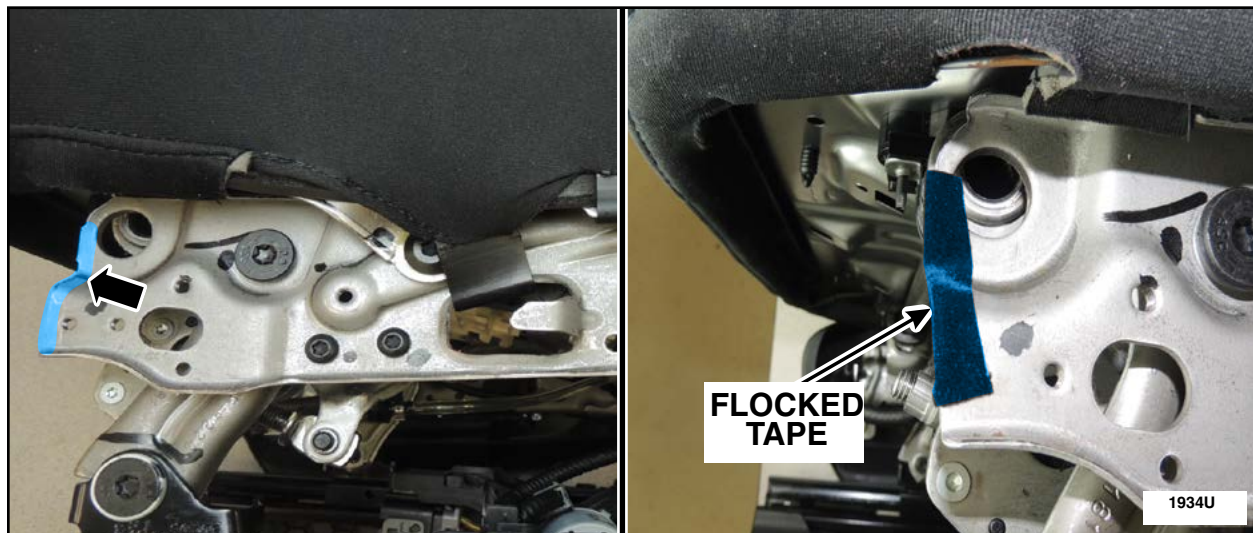

FIGURE 7
9. Peel off the backing and apply one of the 57.15 mm (2.25 in) strips of flocked tape to the front inboard seat frame. See Figure 7.